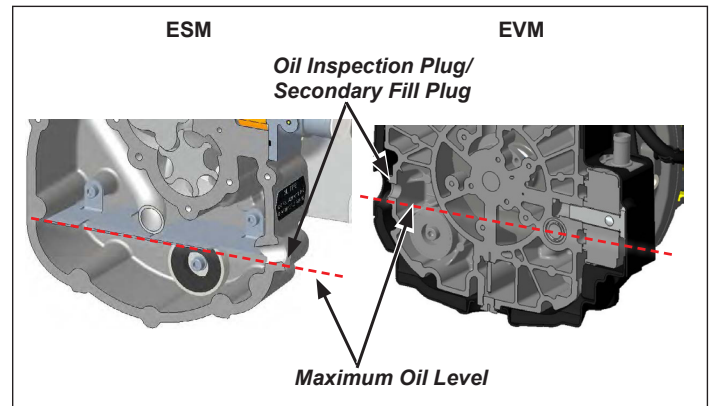

Figure 11 – Oil Level Check
NOTE: Oil may run out while the oil inspection plug is being unscrewed. See Figure 11.
4. Fill the compressor with Chevron® Cetus® PAO 46 oil until the oil reaches the bottom of the thread shown in Figure 11.